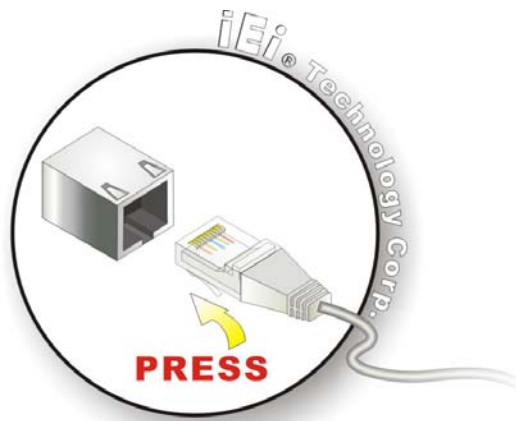

Figure 5-19: RJ-45 Ethernet Connector
Step 2: **Insert an RJ-45 plug.** Insert the RJ-45 plug of a LAN into the RJ-45 receptacle on the external peripheral interface. See **Figure 5-19**.